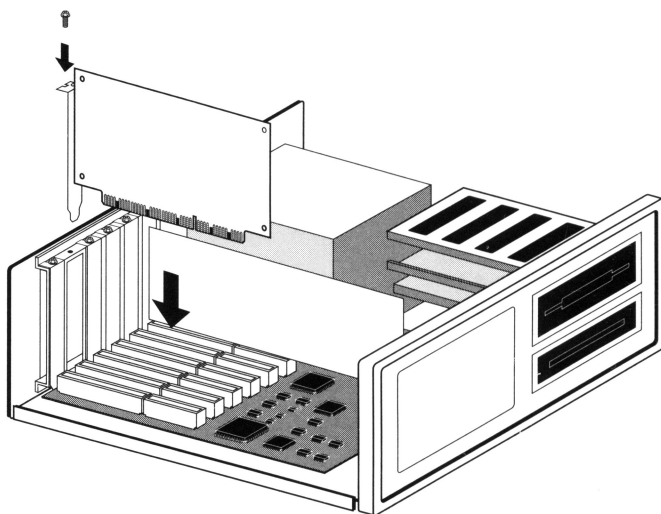

Figure 1-4. Inserting the Adapter
4. **Insert the adapter into the expansion slot and secure it with the screw, as shown in Figure 1-4.**